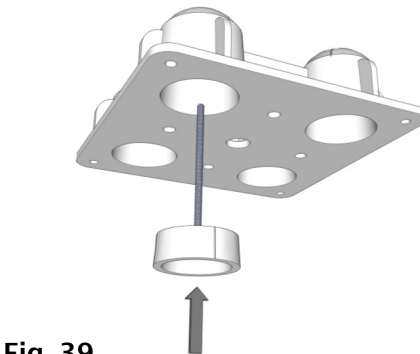

Fig. 39
Insert the Compression Cup with Bolt (P) into the bottom of a Pier (A) (Fig. 39) where you intend to install a Railing Post and place the Pier (A) on level grade.